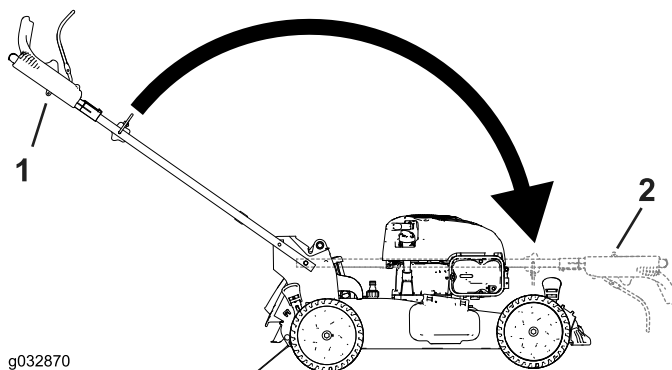

Figure 32
2. Fold the handle by rotating it forward (Figure 32).